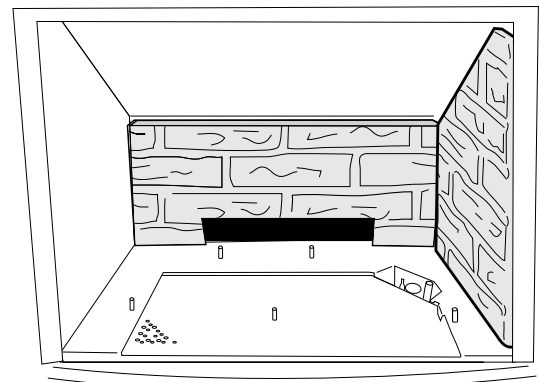

Figure 50. Install Side Panel
5. **Install a Side Panel.** Tilt the panel, bottom edge first, into position against the side wall. The panel will stand on its own against the wall, fitting snugly between the rear panel and the front wall of the firebox. Fig. 50.